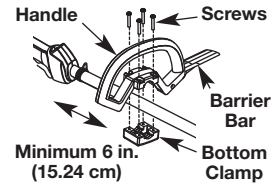

Fig. 2
2. Place the handle above the shaft housing. Place the bottom clamp below the shaft housing. Align the handle and bottom clamp (Fig. 2).
3. Insert the 4 screws through the handle and into the bottom clamp (Fig. 2). Use a large flat-head screwdriver or a T-25 Torx screwdriver to partially tighten the screws.
4. While holding the unit in the operating position, move the handle to the location that provides the best grip. Place it a minimum of 6 inches (15.24 cm) from the end of the shaft grip (Fig. 2).
2. While holding the unit in the operating position, move the handle to the location that provides the best grip. Place it a minimum of 6 inches (15.24 cm) from the end of the shaft grip (Fig. 2).